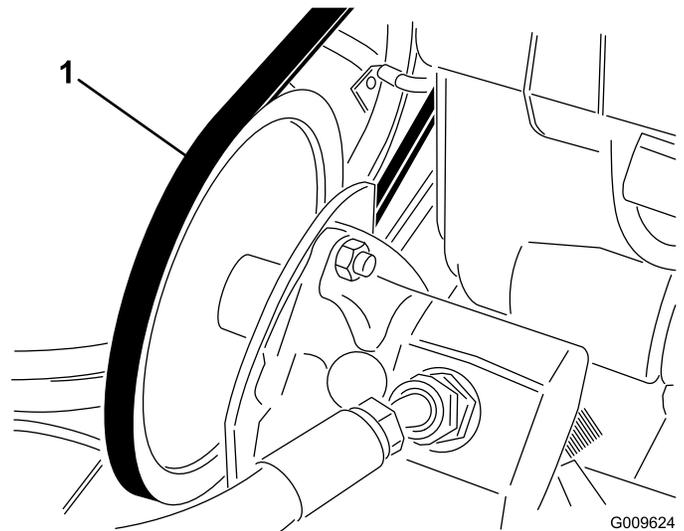

Figure 53
- A. Loosen the nuts securing the hydraulic pump to the engine frame (Figure 53).